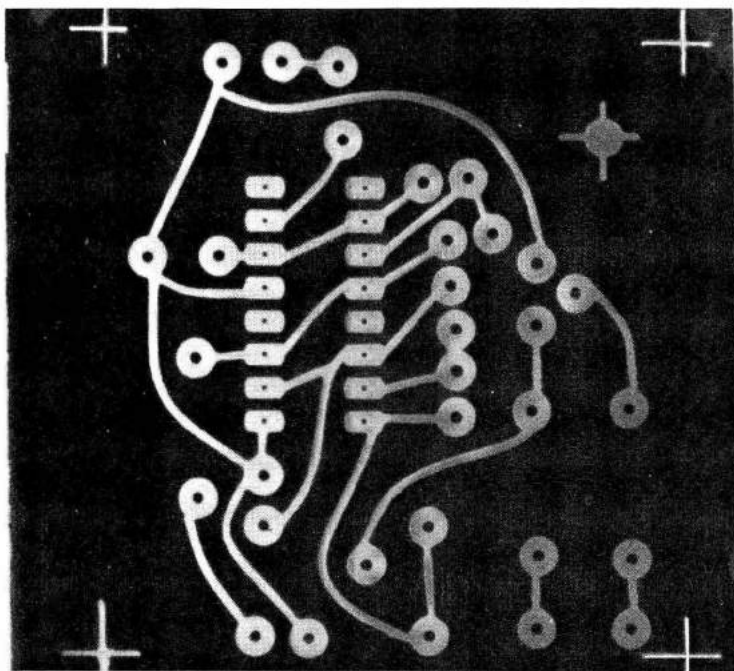

Fig. 3-15. Negative of artwork made with I-N-T material.
11. Place the carrier (clear film which was saved in Step 5) over the tacky side of the film and press it down. This is now a reusable negative. Figure 3-15 shows a completed negative made with this process.